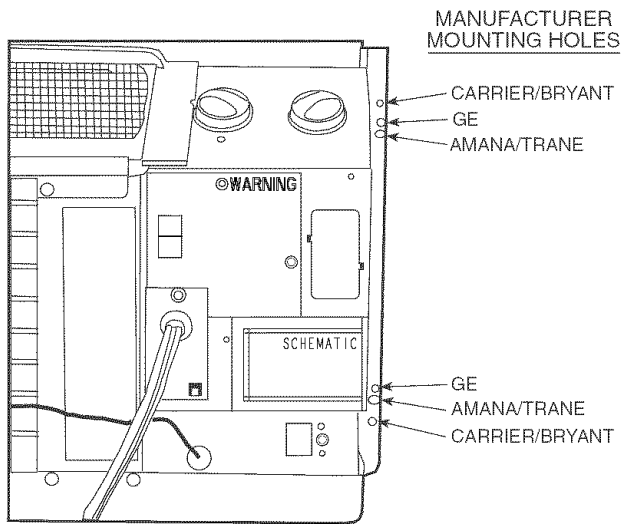

Fig. 11 — Chassis Mounting
5. Screw chassis to wall sleeve with four mounting screws taped to the control box. Screw holes are located on both sides of the mounting angles of the chassis. See Fig. 11.